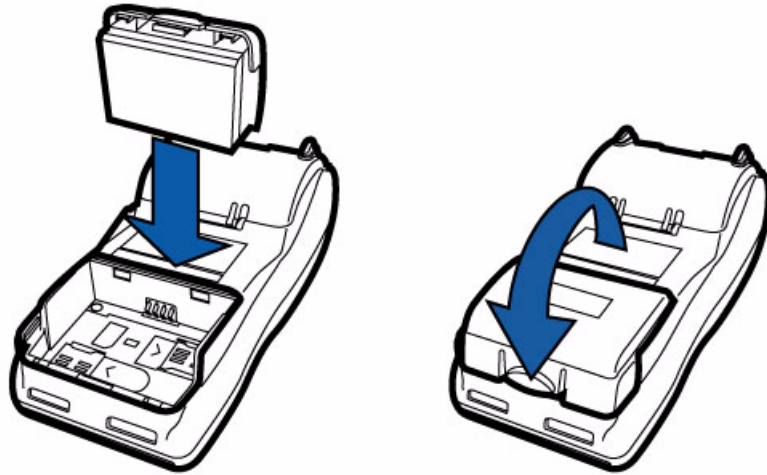

Figure 21 Installing the Smart Battery
- 7 Install the battery (see Figure 21).
- 5 Install the battery (see Figure 21).
The V^x680 smart battery fits in a slot on the back of the V^x680 terminal, as shown in Figure 21. The locking tab clicks when the battery is in place. The slot is keyed, so that there is only one way to insert the battery.